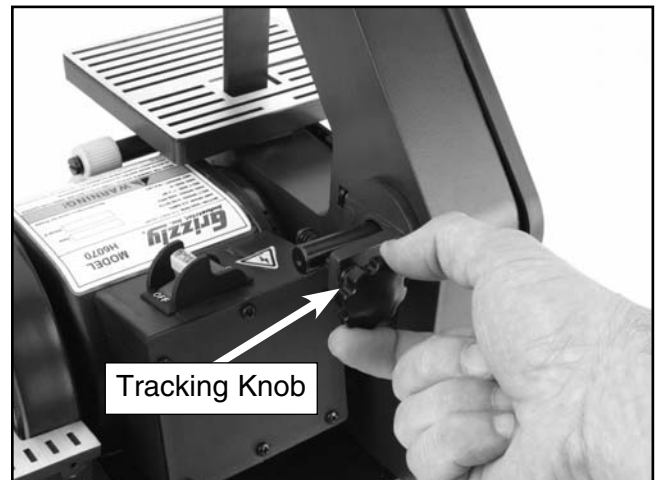

Figure 20. Setting the belt tracking (rear view).
- If the sanding belt tracks off-center to the left as you are looking at the front of the sander, rotate the tracking knob (see **Figure 20**) counterclockwise until the belt tracks to the center.